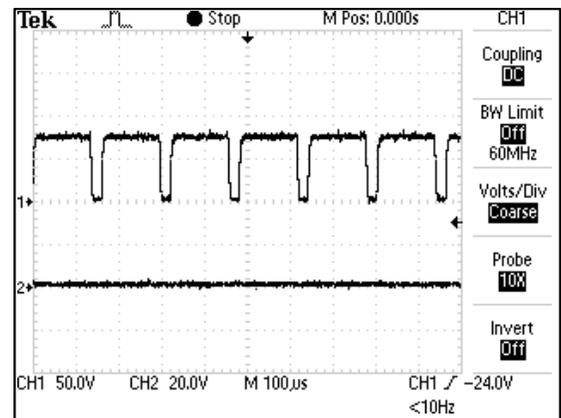

Figure 5.12
K. GALVANIC: INTERRUPTED (Figure 5.12)